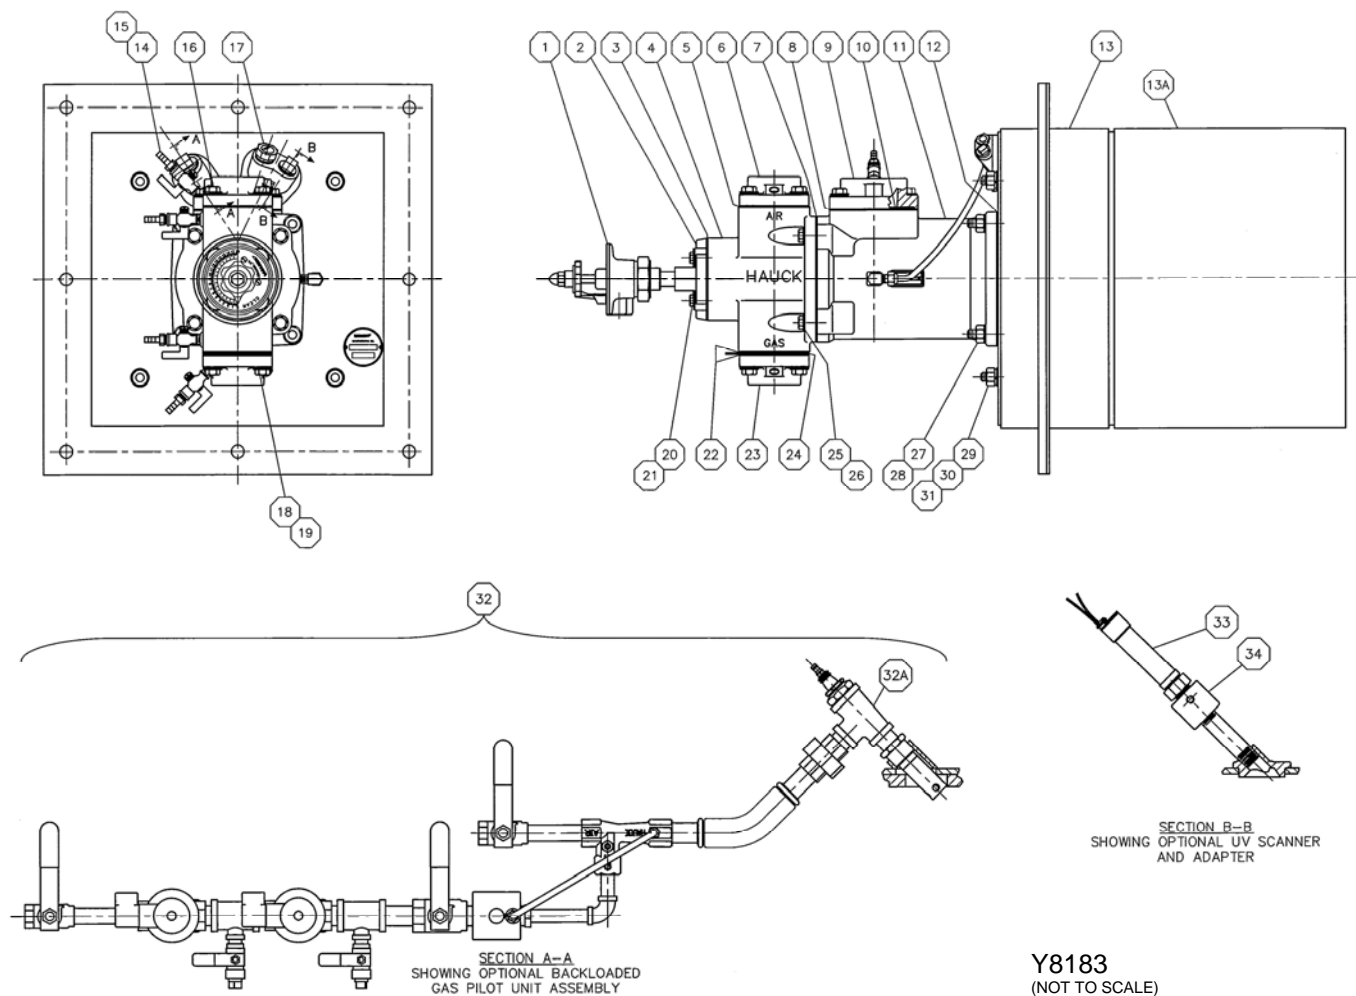

Figure 1. Components Identification for Installation
Numbers in parentheses indicate items shown in Figure 1.
- B. Remove the pilot (32A) from the pilot unit (32) by loosening the union.
- B. Install the UV scanner adapter assembly (34) into the UV scanner port (Section B-B).
- D. Install the compression fittings provided into the connection on the burner body (11) and the UV scanner connection (Section B-B).
- F. Install the UV scanner (33) on to the UV scanner adapter assembly (34).
11. Install the four orifice metering cocks (14) and couplings (15) provided (see Figure 1).